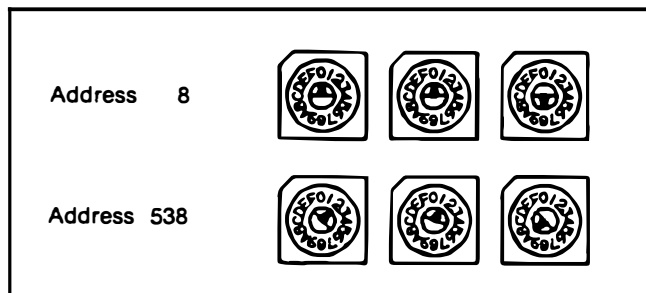

Fig. 8 Address Switch Examples
Each PONI installed in any one network must have a unique address. The three hexadecimal selector switches offer 4096 different addresses (16x16x16), ranging from 001 to FFE. Records of addresses should be maintained in terms of the hexadecimal number (recommended) or decimal equivalent along with the connected product and the function of the PONI. In a hexadecimal system, A=10, B=11, C=12, D=13, E=14 and F=15. Examples of switch settings are shown in Figure 8.
- 4) Add the results from #1, #2, and #3 together. The result for the second example in Figure 8 is (2 x 256) + (1 x 16) + 10 = 538.